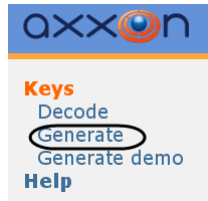

Fig. 4.10—4 Generating an activation key for a paid license
1. Use your Web browser to go to <https://sale.axxonsoft.com> (Fig. 4.10—4).
2. Go to the **Generate** link (see Fig. 4.10—4).